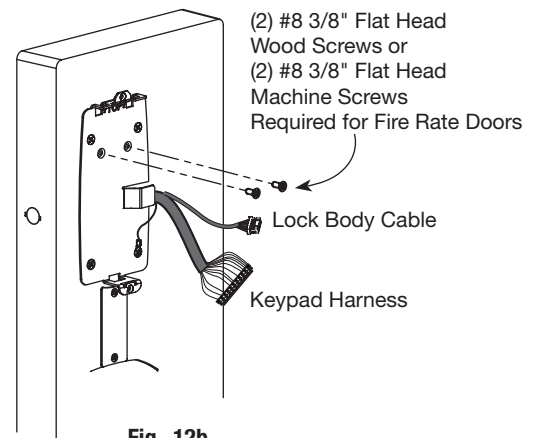

Fig. 12b
**IMPORTANT - Required for fire rated doors:** Surface mount screws required for fire rated doors (Fig. 12b).